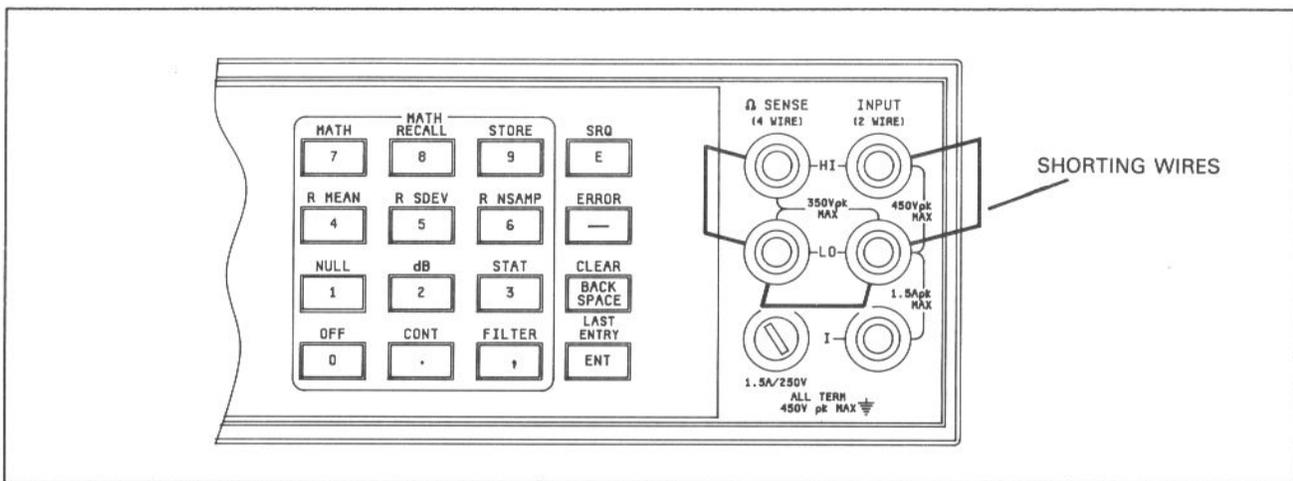

Figure 5-1. Input Connections for Four-Wire Ohms Offset Calibration
5-32. Equipment Required. A low thermal short (copper wire) is required for this procedure. (Refer to Figure 5-1).
b. Connect the short across the Front Panel HI and LO Input Terminals and the Ω Sense HI and LO terminals as shown in Figure 5-1.